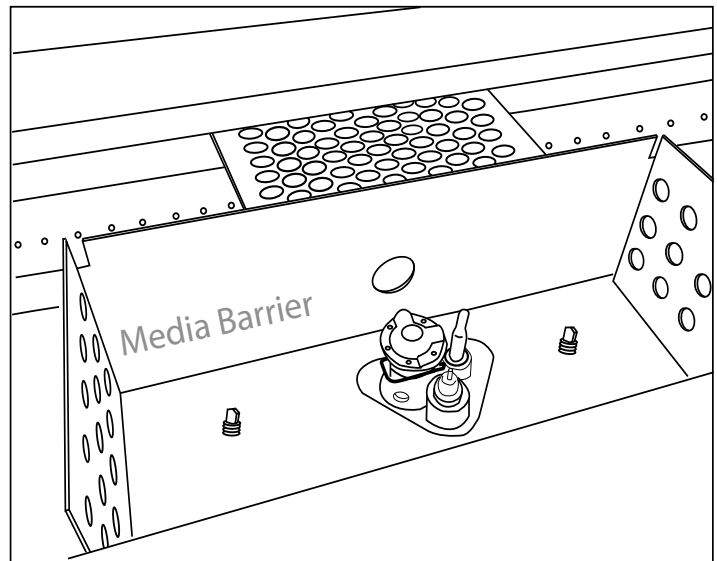

Fig. 6 Show pilot assembly under the pilot hood.
**Step 7:** In the center of the burner pan where the pilot is located (See Fig. 6), remove the pilot head. **Note:** Some media may need to be removed to gain access.
Once the orifice has been converted to LP then re-install the pilot hood, ensure the clip is in place (if removed) and mount the metal pilot box back into place in the same manner you removed it from the burner pan. See Fig. 6 as a reference.